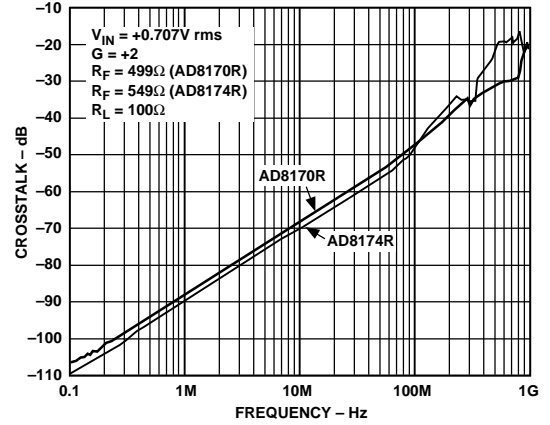

Figure 13. All-Hostile Crosstalk vs. Frequency
- ⁶Select input(s) that is (are) not being driven (i.e., if SELECT is Logic 1, activated input is IN1; in AD8174, if A0 = Logic 0, A1 = Logic 1, activated input is IN2). Drive all other inputs with V_{IN} = 0.707 V rms, and monitor output at f = 5 MHz and 30 MHz; R_L = 100 Ω (see Figure 13).